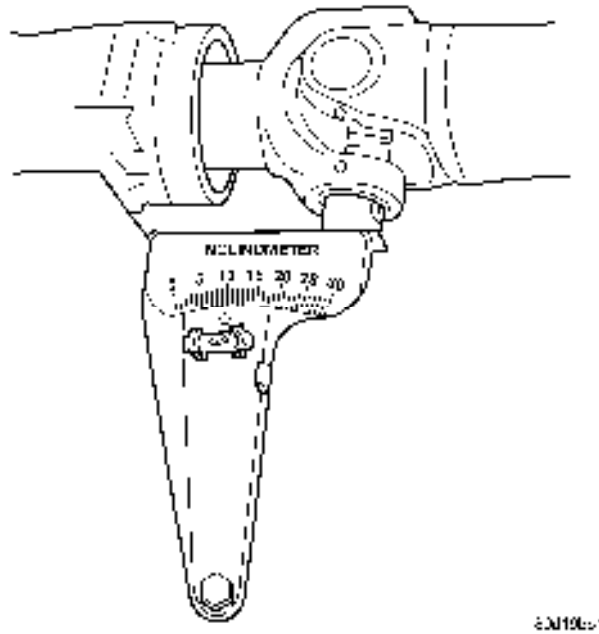

Fig. 1 OUTPUT ANGLE
5. Place inclinometer on yoke bearing cap or pinion flange ring (A) parallel to the shaft . Center the bubble in sight glass and record measurement(Fig. 1).